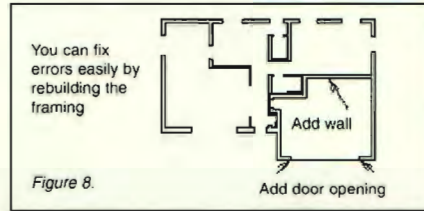

Figure 8.
1. At this point, I went back to the Exterior option and outlined the missing exterior building walls that were inside the garage space (step 1, Figure 8).
2. Then I defined the Exterior garage door opening and the door from the garage space leading into the building (step 2, Figure 8).